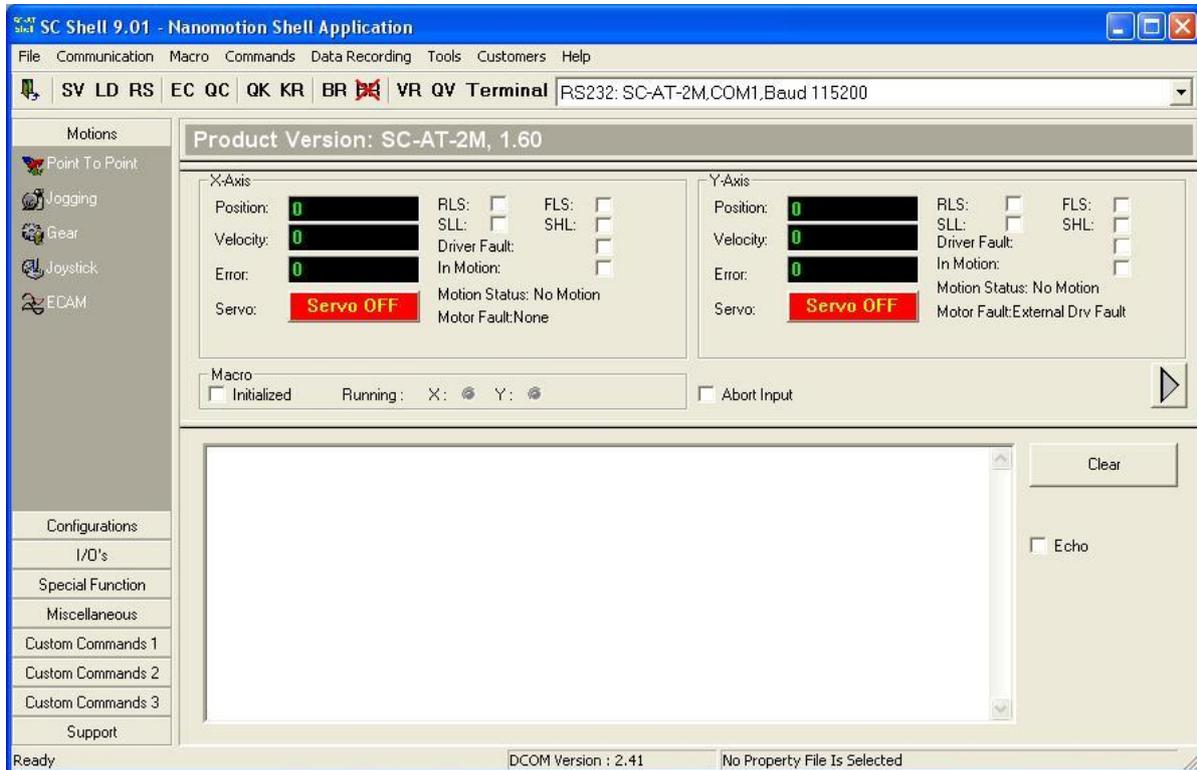

Figure 5: Nanomotion Shell Application Main Screen
12. If the communication is established successfully, the main screen of the Nanomotion Shell Application automatically becomes active, see Figure 5. If communication fails, an error message appears.
1. Move the stage manually to ensure that the encoder is reading the position. While moving the stage, observe the Nanomotion Shell Application main screen (refer to Figure 5).